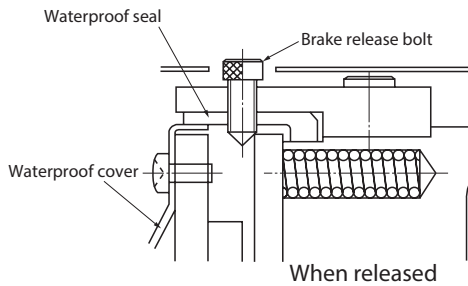

Figure 8-43
- (1) First remove the brake release bolts from the 2 opposing angles and remove the release prevention spacers. Reinsert the bolts and rotate with a hexagonal wrench to release the brake. Be careful not to over rotate the brake release bolts. (Rotate the brake release bolts while checking to see if the brake is released. (See Figures 8-43, 8-44)
- (2) After releasing the brake, to return it to its original condition, for safety, return the manual release prevention spacers that were removed in (1) to their original positions.